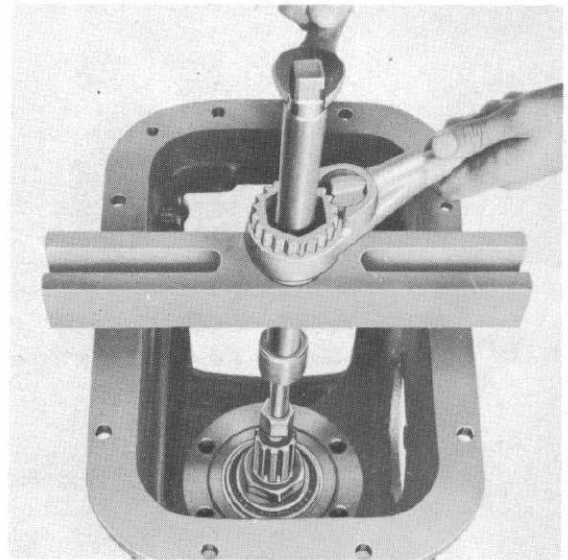

Fig. 2
- Step 5—Pull the pinion and bearing carrier out as shown in Figure 2.